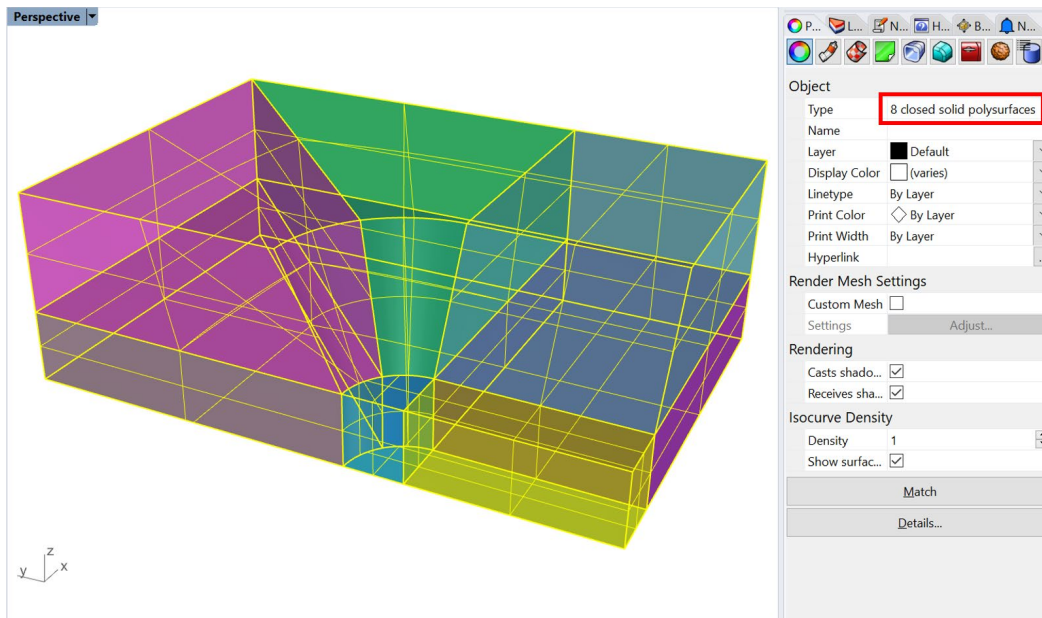

Figure 48: Solid blocks of the model (Ghosted view).
22. Select all remaining objects with **Ctrl+A** and verify that *Rhino* reports only eight polysurfaces have been selected. If any surfaces are reported, this is an indication that they were not joined to a solid block. Find and join them so that only eight closed polysurfaces (solids) are present. While the solids are selected, navigate to the *Properties* pane (or press **F3**) and ensure that object *Type* indicates that they are closed polysurfaces (Figure 48). If the *Type* field says “varies”, most likely it means that some solids are not closed (probably incorrect surfaces were created).